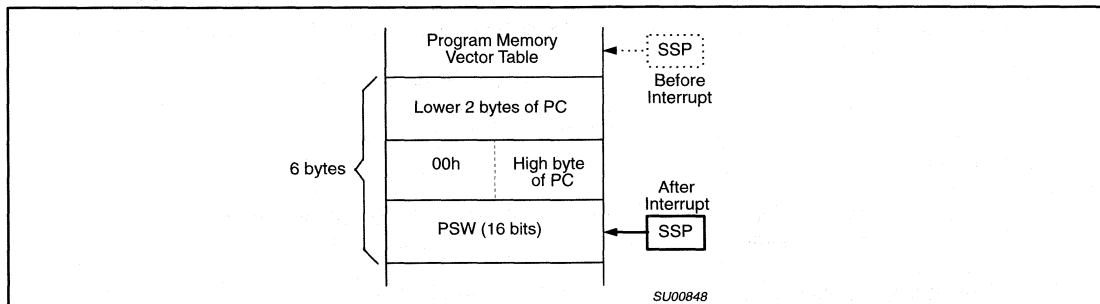

Figure 1. XA Stack Frame – Non Page 0 Mode (24 bit mode)
The stack frame in the native 24-bit XA operating mode is shown in Figure 1. Three words (6 bytes) are stored on the stack in this case. The first word pushed is the low-order 16 bits of the current Program Counter (PC), i.e., the address of the next instruction to be executed. The next word contains the high-order byte of the current PC. A zero byte is used as a pad since the stack must be word aligned. Since a complete 24-bit address is stored in the stack frame a return to any code location in the 16M byte XA address range is possible. The third word in the XA stack frame contains a copy of the PSW at the instant the interrupt was serviced.